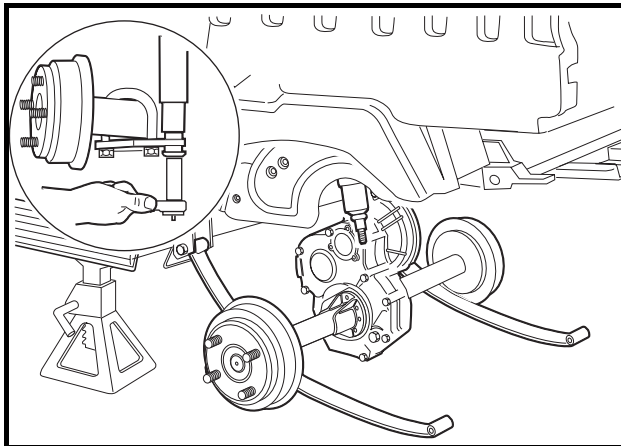

Figure 22a-3 Lower Axle
9. Remove the four bolts that mount the motor to the transaxle (**Figure 22a-18, Page 22a-14**). See following **CAUTION**.